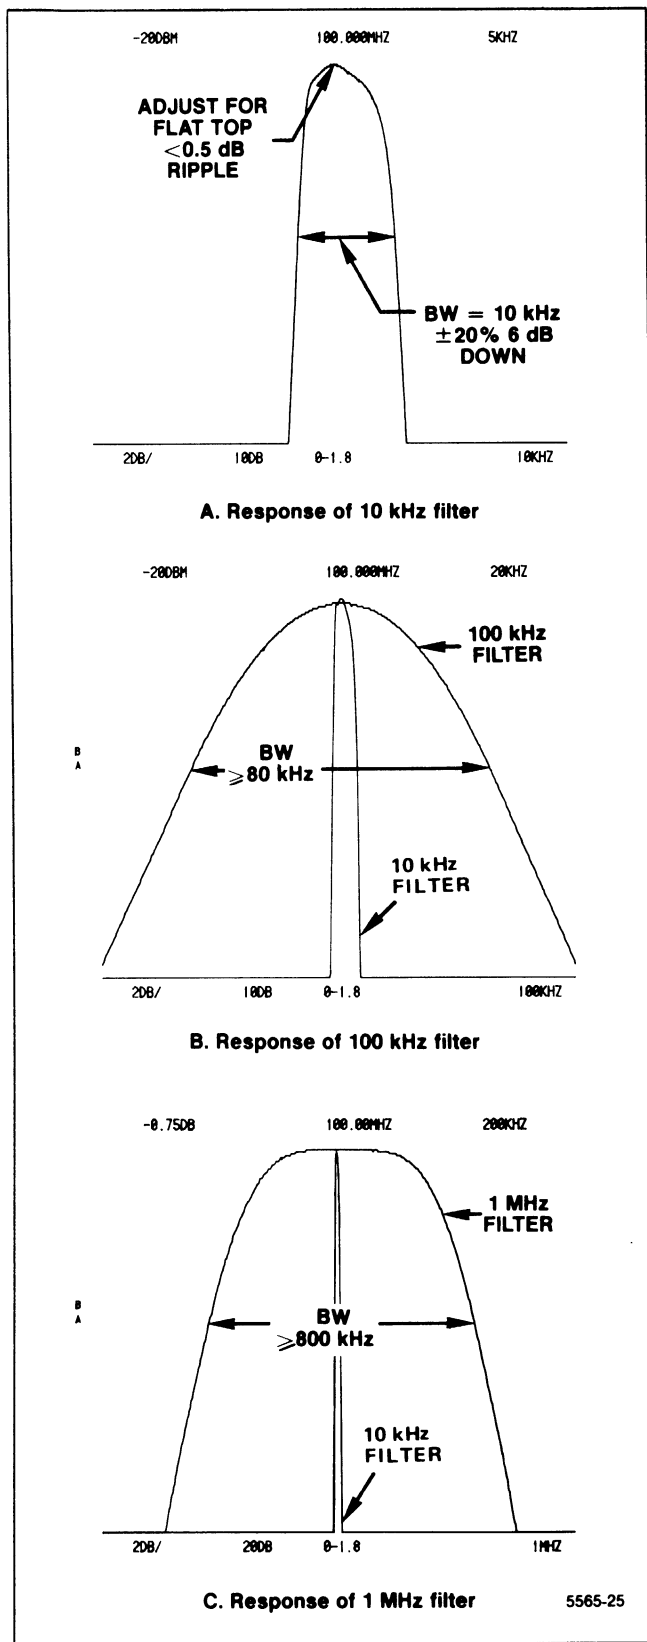

Figure 5-18. 10 kHz, 100 kHz, and 1 MHz filter response.
s. Check the waveshape, bandwidth, and centering of all filters. If necessary, make only fine or minor adjustments. Figure 5-18 shows typical response shapes.